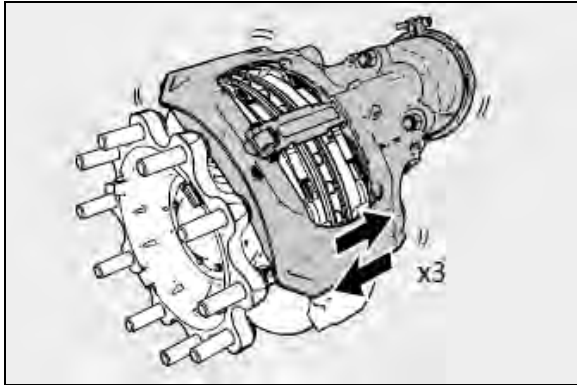

FIGURE 40: PUSH CALIPER THREE TIMES IN AXIAL DIRECTION
6. Push and pull caliper three times in axial direction to assess any existing air gap (see Figure 40). If no movement is possible, clean the disc brake and if necessary, replace the bearings. Once movement is obtained, continue as follows: